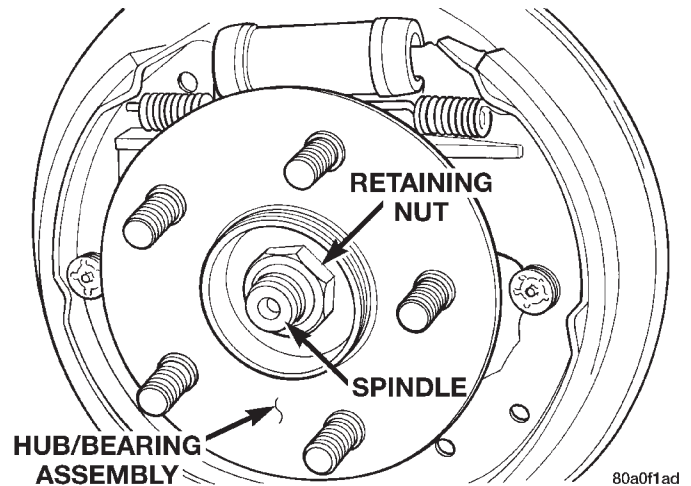

Fig. 80 Hub/Bearing Assembly Retaining Nut
- (6) Remove hub/bearing assembly to rear spindle retaining nut (Fig. 80).
- (7) Remove rear hub/bearing assembly from knuckle, by pulling it straight off the knuckle by hand.
- (1) Install the hub/bearing assembly on the knuckle. Then install a **NEW** rear hub/bearing assembly retaining nut (Fig. 80). Tighten the hub/bearing assembly retaining nut to a torque of 250 N·m (185 ft. lbs.).